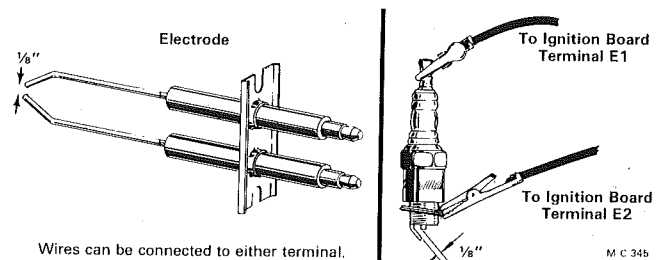

Figure 56
- B. Using a new properly gapped electrode ($\frac{1}{8}$ inch) or an automotive spark plug gapped to ($\frac{1}{8}$ inch), connect terminals E-1 and E-2 on the ignition board to the test electrode or spark plug with jumper wires, see Figure 56, page 34.